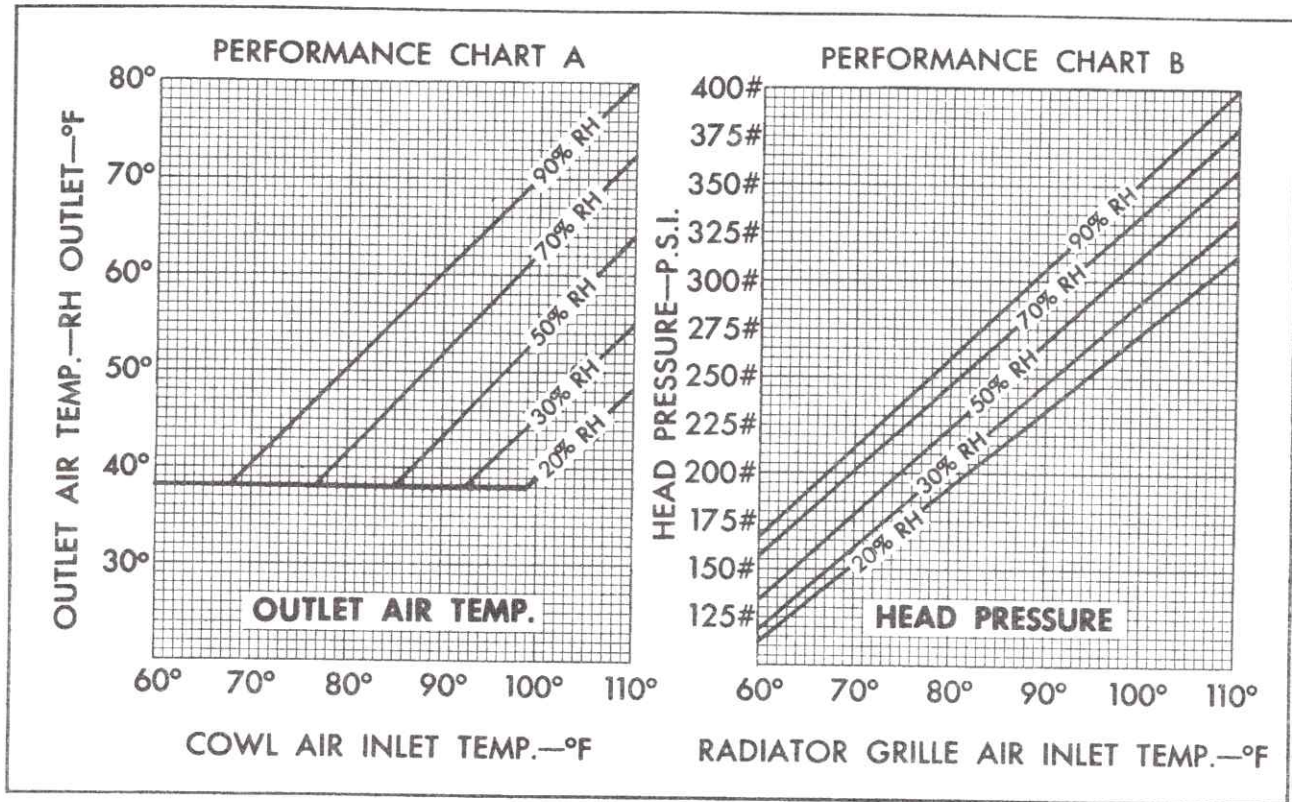

Fig. 1-23 A/C Performance Chart (Except 697)
19. Refer to Chart A, Fig. 1-23, to determine if outlet air temperature is normal. If outlet
20. Refer to Chart B, Fig. 1-23, to determine if head pressure is normal. If head pressure is within 30 pounds below reading on chart, operation is normal.